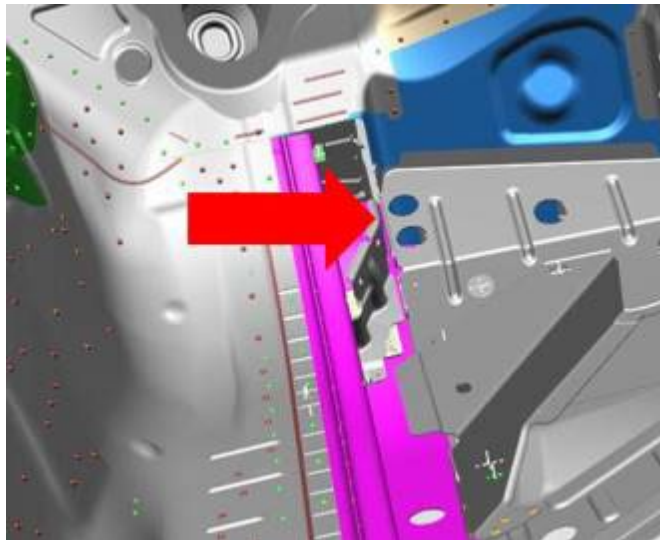

Figure 13. *Point of contact for the steel rod.*
16. Insert the steel rod to the point of contact indicated by the red arrow shown in Figure 13.